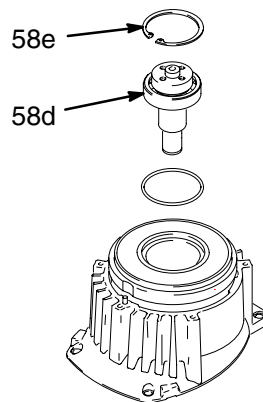

Fig. 12
6. Fig. 12. Remove retaining ring (58e).
4. Install armature (89) on engine drive shaft.
5. Install four screws (2) and lockwashers (43) with torque of 125 in-lb.
6. Fig. 12. Tap pinion shaft (58d) in with plastic mallet.